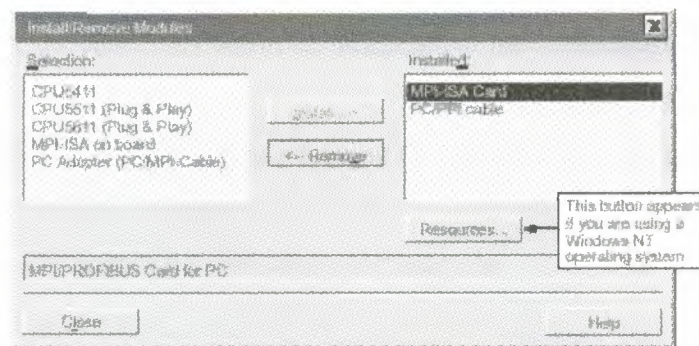

Figure 6.3 Install/Remove Modules Dialog Box
6. At the end of the installation, the Install/Remove Modules dialog box appears automatically. See Figure 6.3. You can install the hardware for your machine to communicate now, or you can wait until later.
If you are using Windows 95 or Windows NT 4.0, the Install/Remove Modules dialog box appears automatically at the end of your software installation. See Figure 6.3. If you are using Windows 3.1, follow these steps: